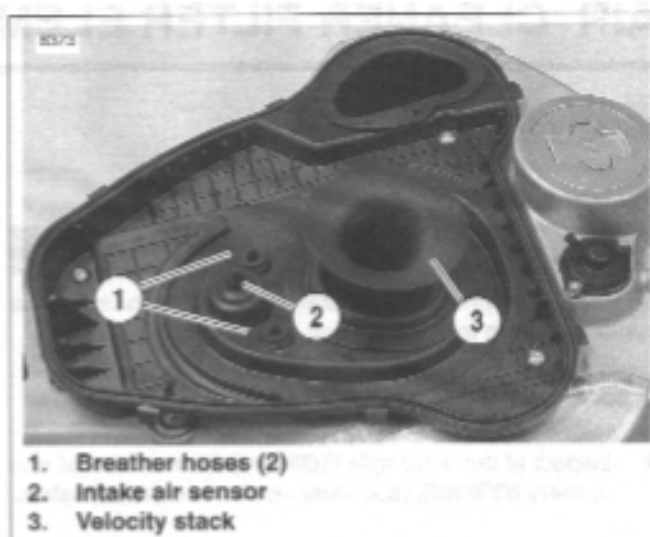

Figure 1-48. Airbox Baseplate
3. See Figure 1-48. Make sure two crankcase breather